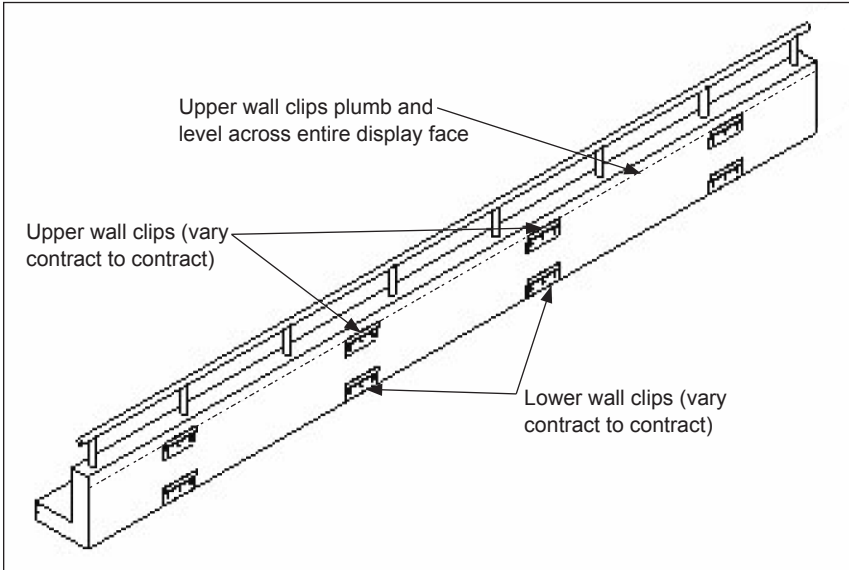

Figure 1: Leveling Upper Wall Clips
- 1. Level the upper wall clips. Refer to **Figure 1** and the contract-specific Shop Drawing for details. All upper wall clips must be plumb and level before hanging any sections.
- 2. Verify the lower wall clips are installed per the contract-specific Shop Drawing if applicable. Refer to **Figure 1**.